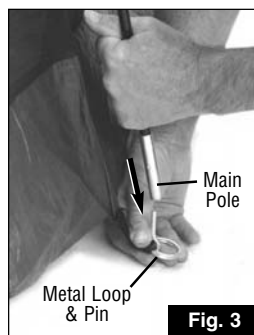

Fig. 3
5. Insert one end of black main pole into pin on metal loop located at either end of tent. (Fig. 3)
6. Go to opposite end of the main pole and gradually apply pressure to the pole forming an arch. Insert the pin into the pole end. (Fig. 3 & 4)